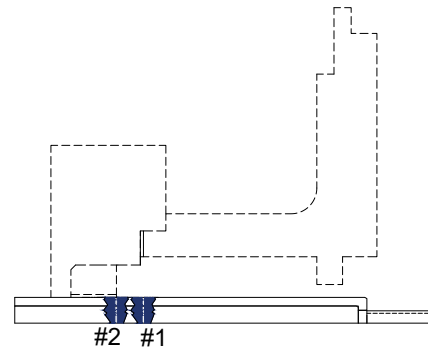

Figure 11: Scribe location of seal face
3. Disassemble the pump and apply layout dye at the approximate location of the seal face. Measure the seal face distance (L1) from Scribe #1 and scribe Line #2 into the dye as shown in Figure 11.